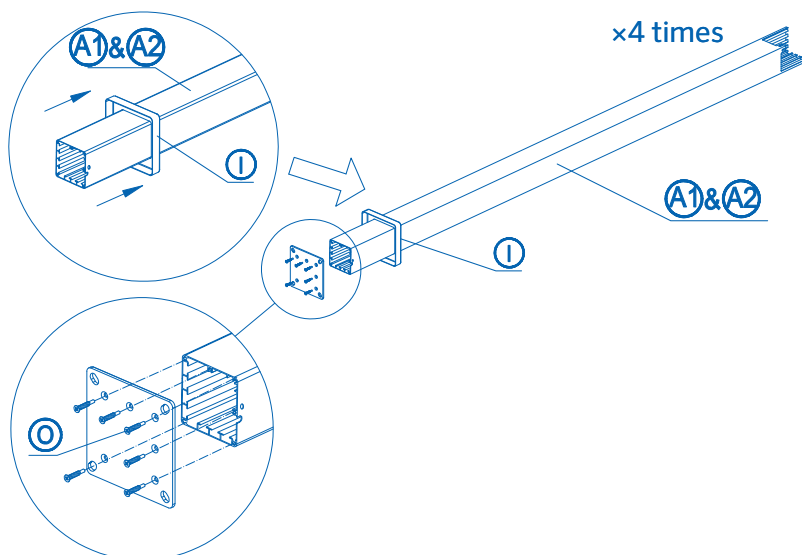

Figure 2.
Slide a collar (I) over the bottom of one of the post sections (A) as shown in figure 2, with the rounded part of the collar facing towards the top of the post. Position base plate (J) over the bottom of the post section and affix to the post using 6 bolts (O). Repeat this process for the other three posts.